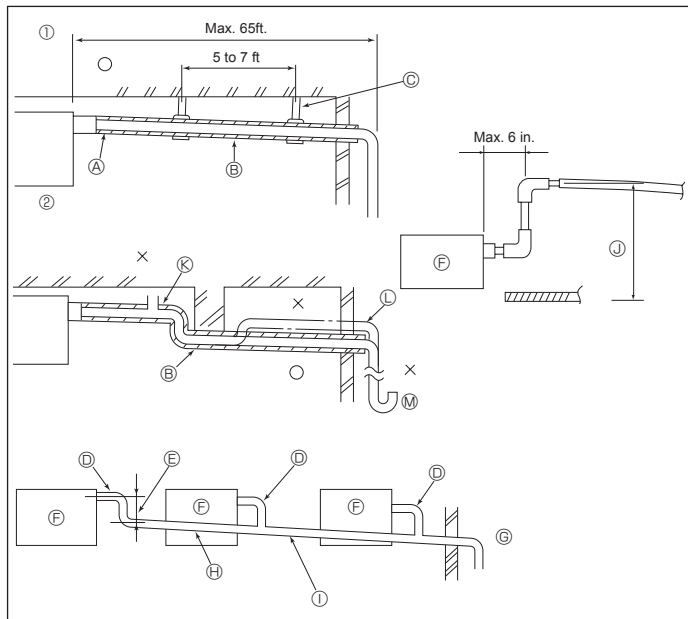

Fig. 5-5
5.4. Drainage piping work (Fig. 5-5)